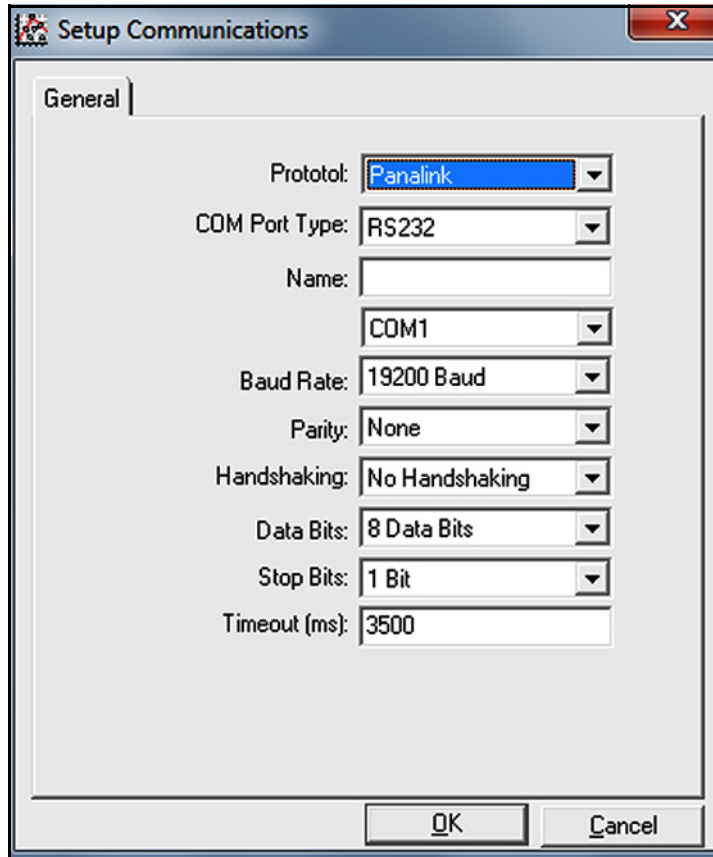

Figure 32: Setup Communications Screen
- Click “*Communications Port*” option to select it (see *Figure 32* on page 30). The dialog box shown in *Figure 32* below opens, with “*Untitled/Empty*” as the default “*Name*.”
The dialog box in *Figure 32* above permits the user to name the communication port (the name “Comport” is used for this example) and to set up all of its parameters.
5. After all of the communications port parameters have been set, click [OK] button (see *Figure 32 on page 30*).